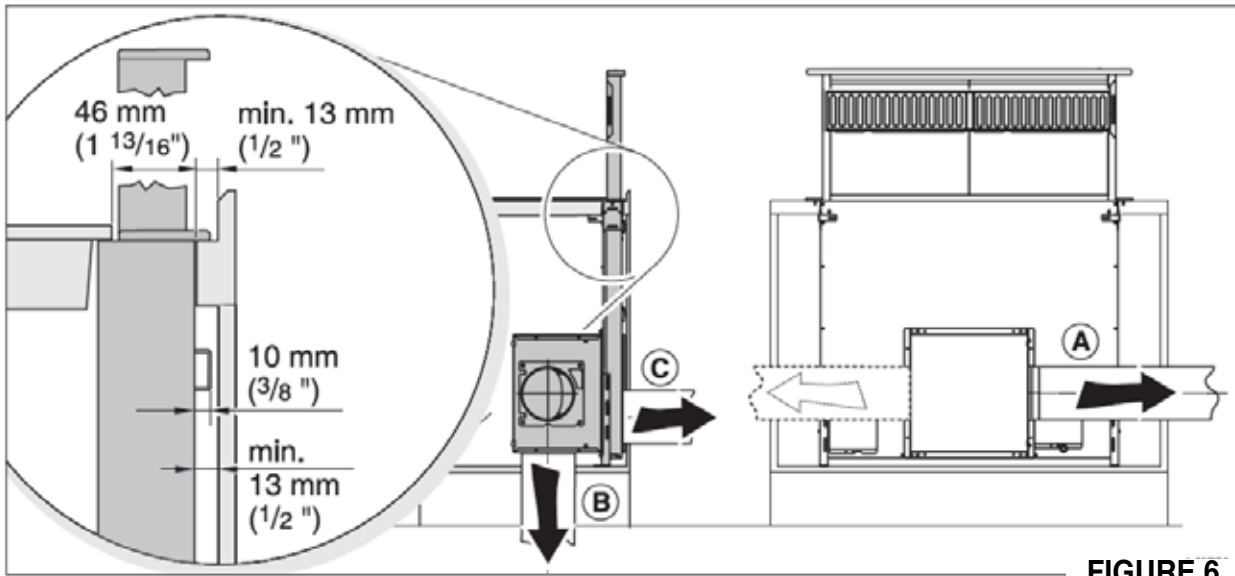

FIGURE 6
See the previous page with FIGURE 5, and FIGURE 6 above for reference. When using the IBDD600 internal blower installed on the front of the appliance use 6" Round ducting. Holes for ducting are shown on FIGURE 5, 6: (A) to the left or right (B) downwards, (C) to the rear. If the blower is being installed to the rear of the appliance, a cut-out must be made in the rear of the cabinet or wall where it will be mounted and the appropriate clearances must be maintained behind the cabinet.